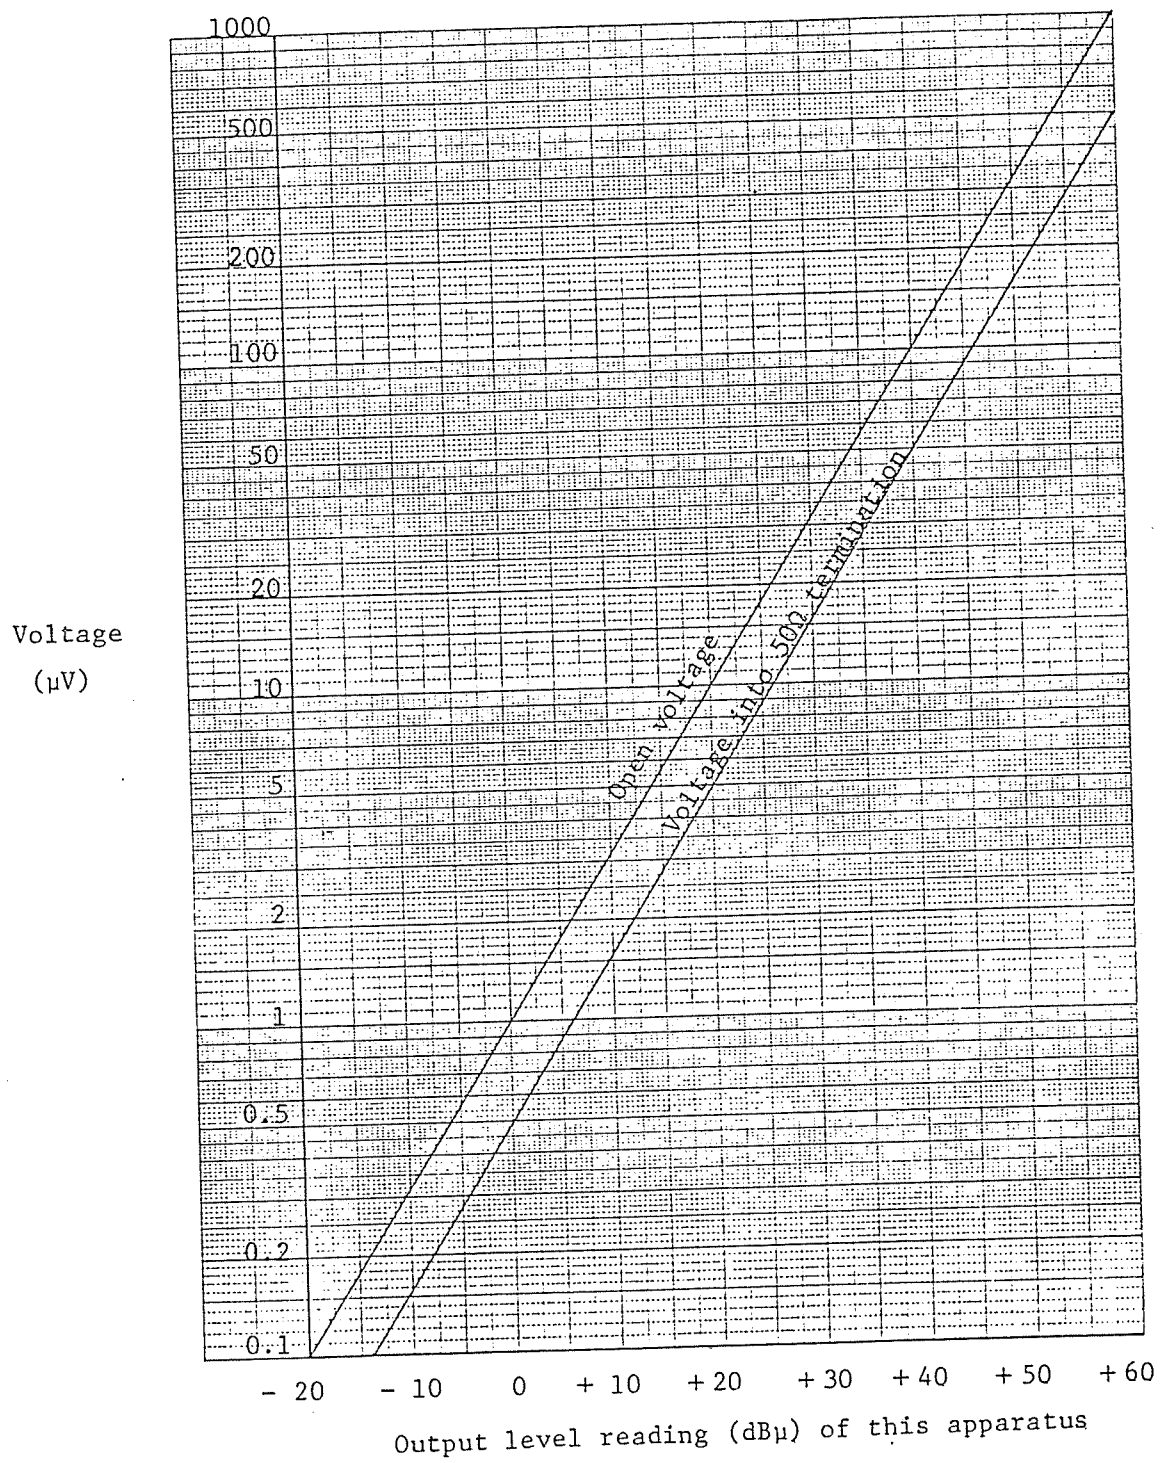

Fig.5-5 Graph for conversion between output level reading (dB $\mu$ ) of this apparatus and voltage ( $\mu$ V)
The dBμ vs. voltage (V) conversion graph is shown in Fig.5-5. The output level of this apparatus is specified in terms of open voltage.